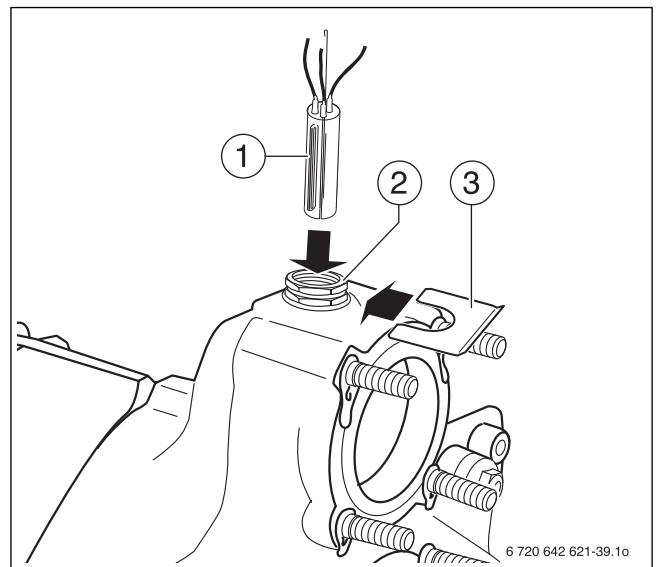

Fig. 48 Fitting the sensor set
The temperature sensor set connected to the control panel (consisting of three temperature sensors and one sensor blind piece → Fig. 48, [1]) is installed in the sensor well  $R\frac{3}{4}$ ".
- ▶ Route capillary pipe sensor to the measuring port of the boiler and then guide the sensor into the sensor well (Fig. 48, [2]) and secure with the retaining clip (Fig. 48, [3]).